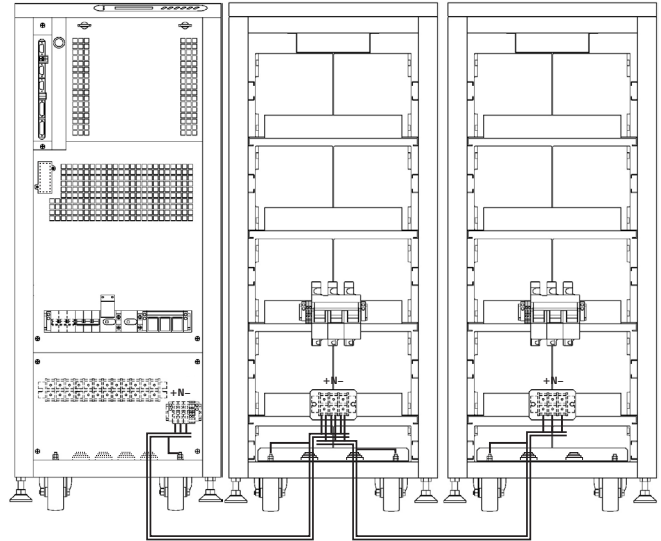

Fig. 22. Connection example between a UPS and two battery cabinets.
- UPS connection with battery rack will be done with the supplied cable trunk, by connecting one side to terminals (X11), (X23) and (X12) of UPS and the other one to terminals (X47), (X49) and (X48) of battery rack, always respecting the stated polarity in the labelling of each part and this manual, and the colour of the cables (red for positive, black for negative, blue for middle tap (N) and green-yellow for earth bonding), see fig. 22.
- Keep in mind that if it is supplied more than one battery pack, the connection will always be in parallel among them and the equipment. That is to say, black cable, from the negative of the UPS to the negative of the first battery pack and from this one to the negative of the second battery pack, and so on. Please, proceed in the same way for red cable for positive, blue one for half tap (N) and green-yellow for earthing.